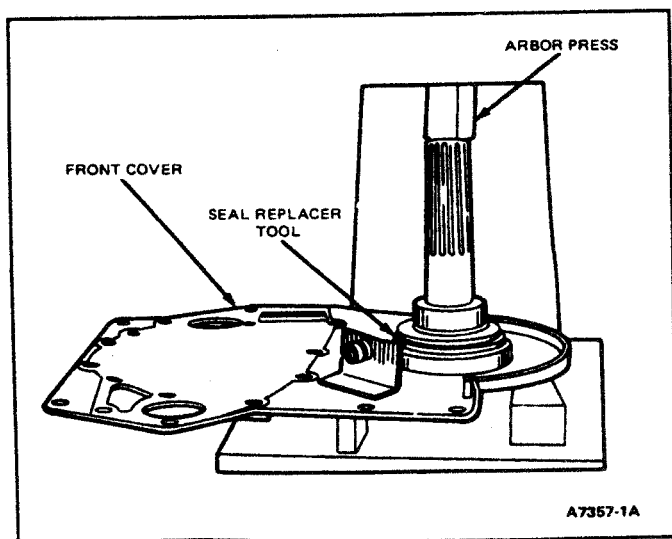

FIG. 35 Engine Front Cover Oil Seal Removal and Installation
16. Support engine front cover, and using an arbor press, Drive Handle Tool T80T-4000-W, and an 82.55mm (3 1/4 inch) diameter spacer, drive crankshaft seal out of front cover (Fig. 35).
CAUTION: Support engine front cover (Fig. 35).